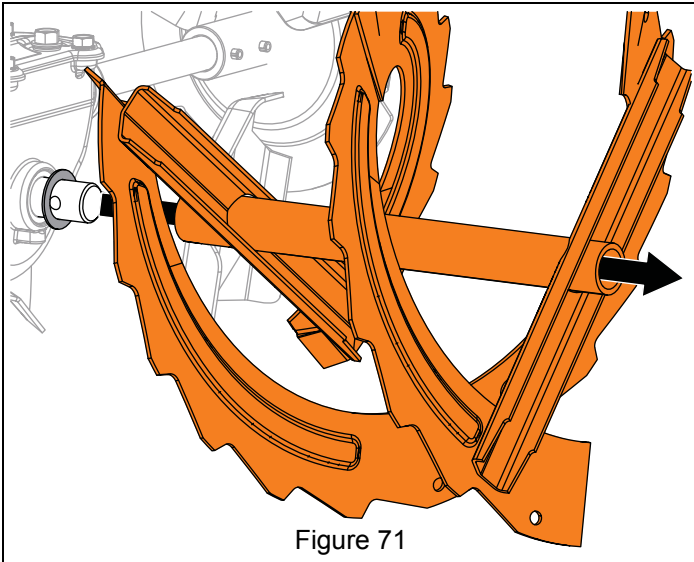

Figure 71
7. Secure support bushings to auger housing with six tapping screws. See Figure 71.